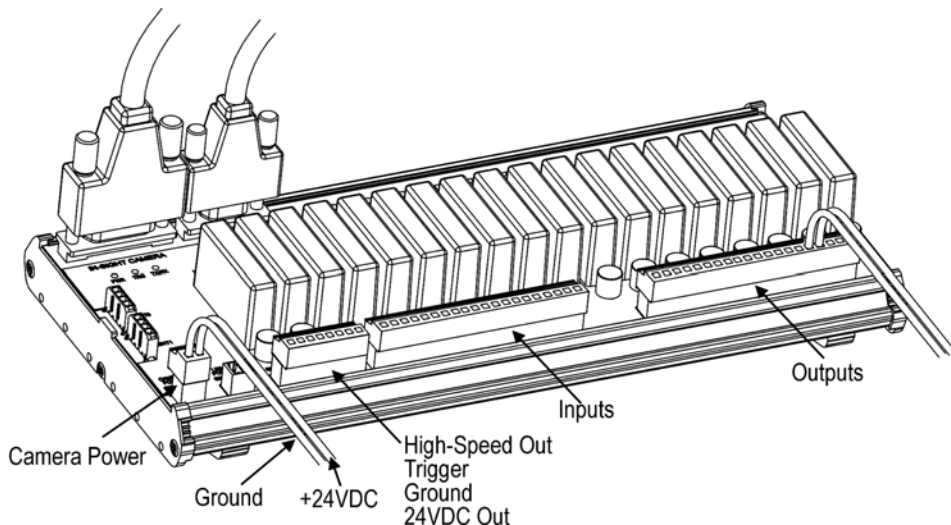

Figure 3-6: Connecting I/O Wires
2. Connect the power and ground wires from remote I/O devices to terminals on the I/O Expansion Module (Figure 3-6).